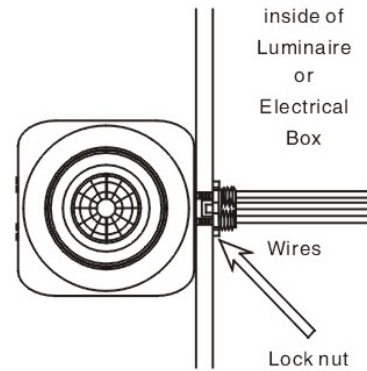

Fig 3A
- 2.Slide the lock-nut over the wires and thread clockwise on to the threaded nipple to secure the sensor firmly in place making sure the lens is orientated towards the area to be monitored(field-of-view).(refer to Fig.3A)